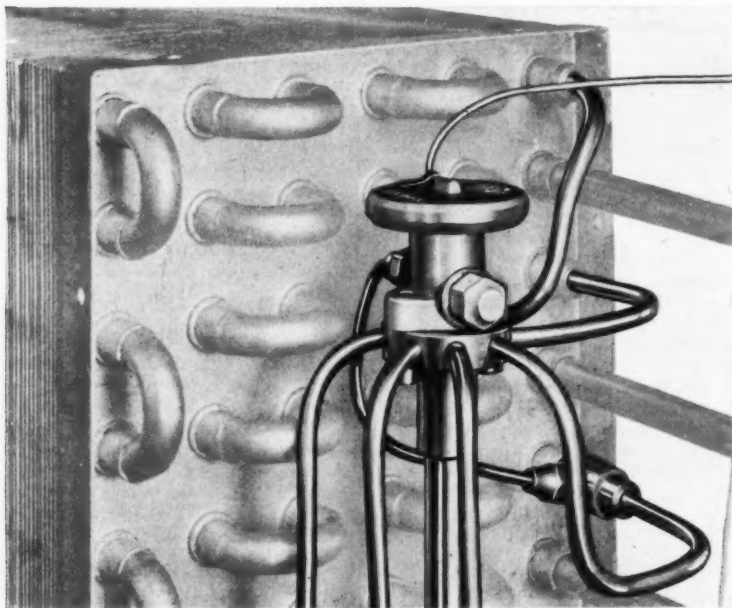

Fig. 6—The multi-outlet expansion valve which eliminates the need of a feed header
5. *The multi-outlet expansion valve:* The multi-outlet expansion valve is a combination expansion valve and distributor which eliminates the need for a separate distributor header. Fig. 6. This device has proven to be the most efficient distribution means as yet devised.